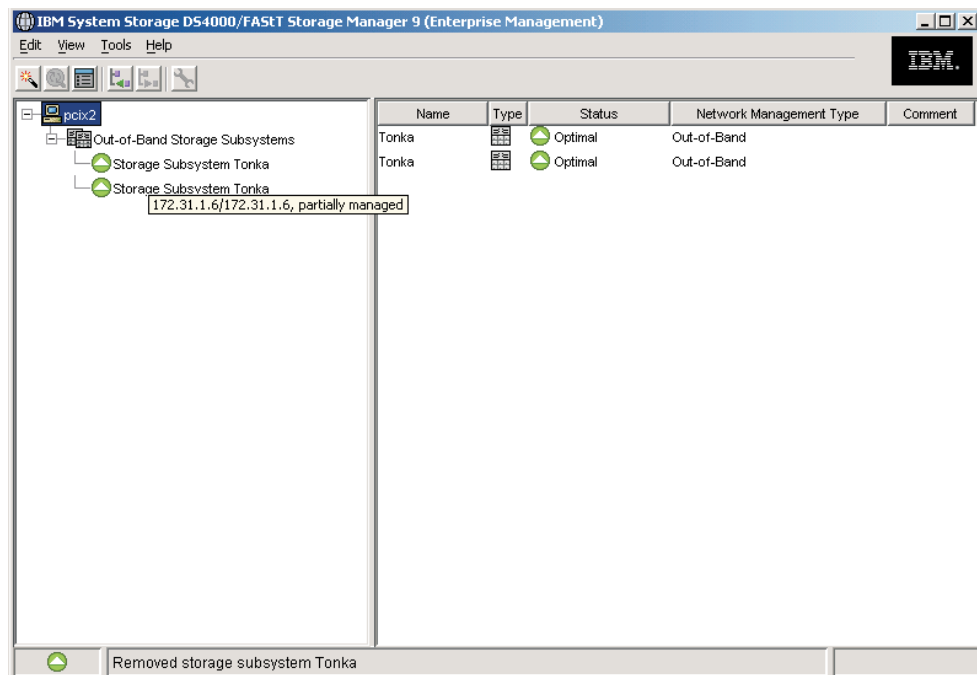

Figure 68. Dual entries appear in the Directly-Managed Storage Subsystem tree
- If controller A is added as a separate entry in the Enterprise Management window as shown in Figure 68, perform the following steps: